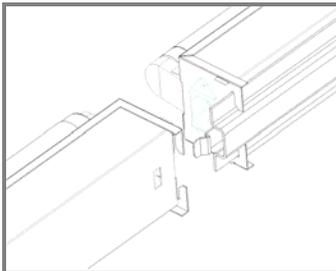

Figure 4
2. Install the second and subsequent modules in the same manner, ensuring that the module plugs insert and connect with the module sockets, and the locking tang is protruding through the latch opening, **Figures 4, 5, 6**.